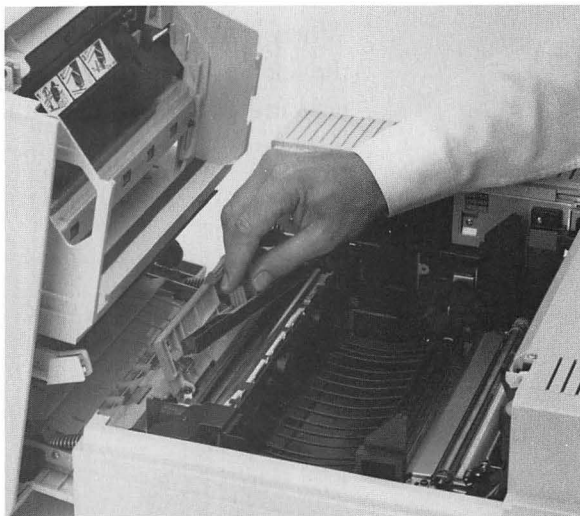

Figure 1-12 Fitting the cleaning pad the under the fixing roller cover
3. Fit the pad into the groove as shown in Figure 1-12.